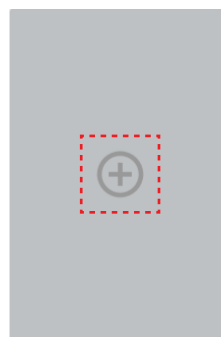

Figure 5: Gray box with + sign
2. A gray box with a + sign will appear (see Figure 5)